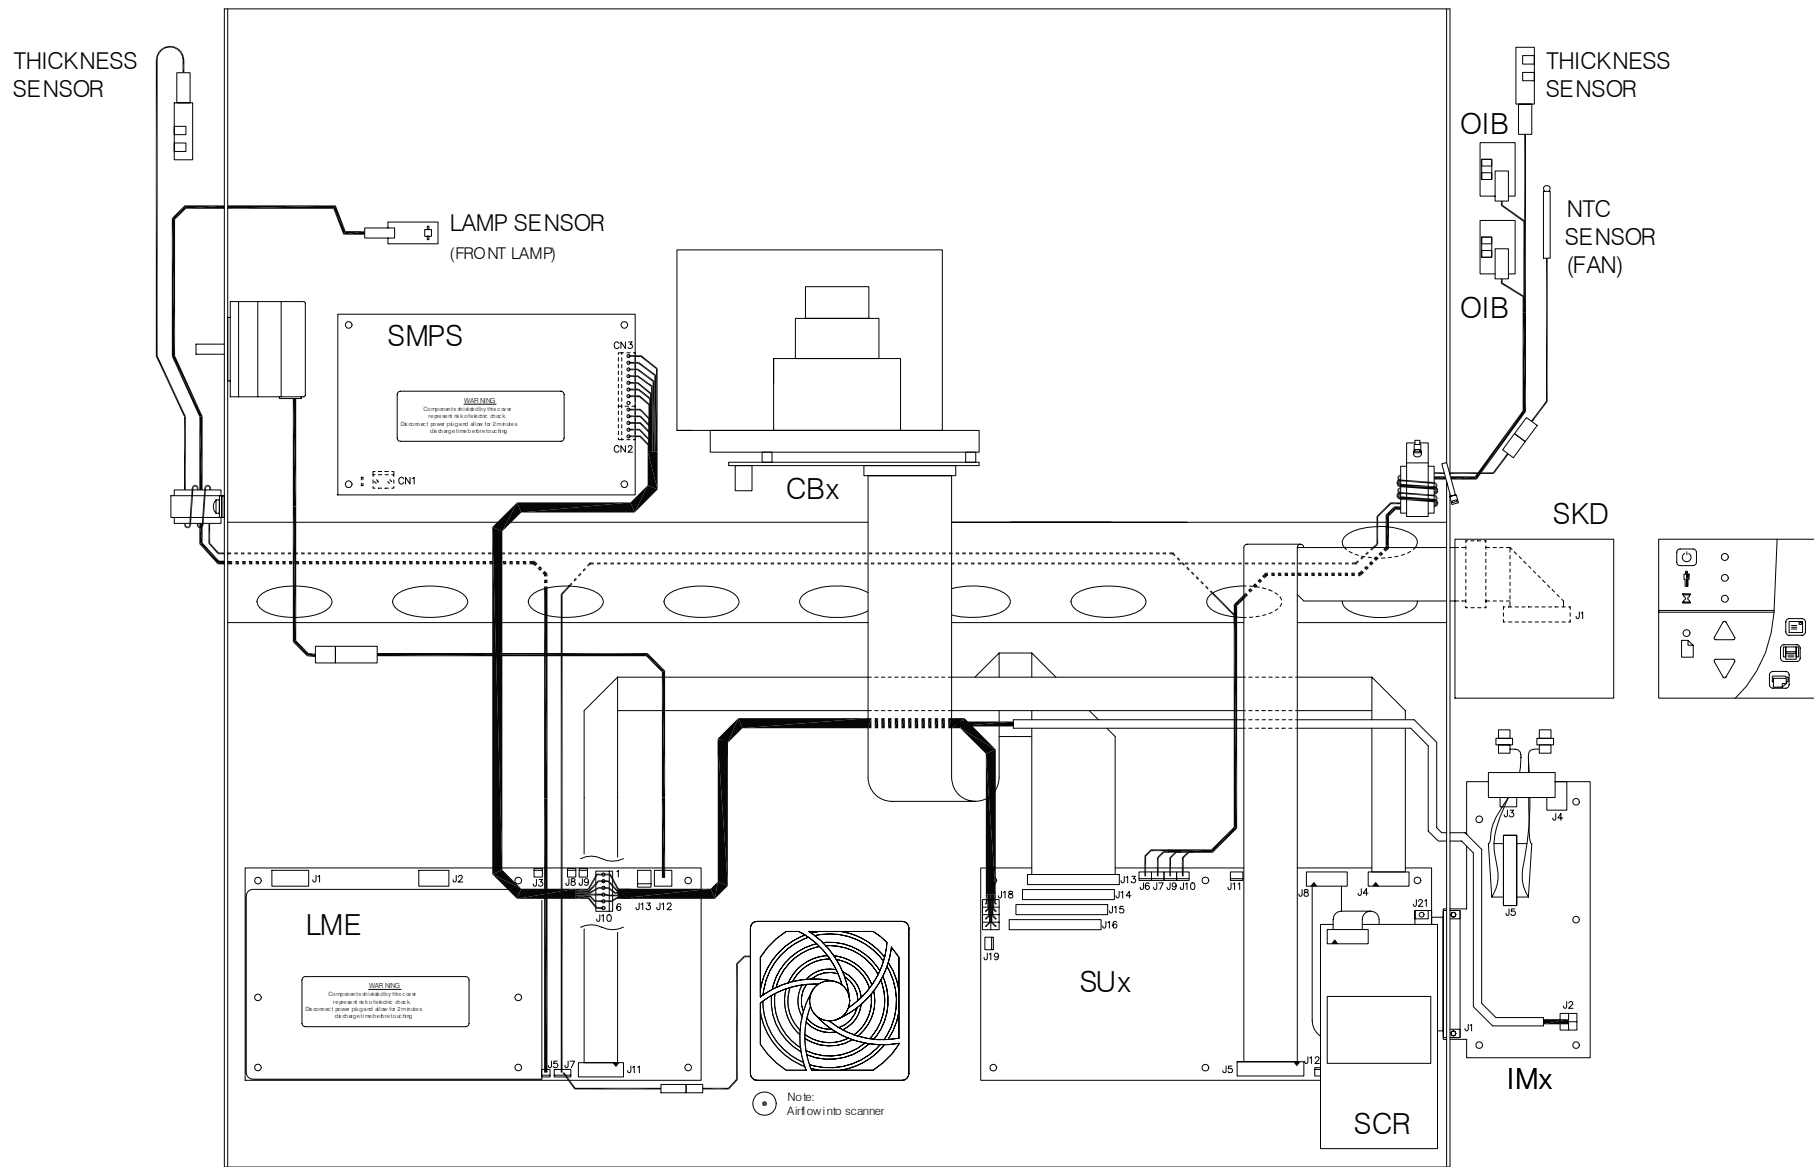

Fig. 11-2 COUGAR 25 Secondary Wiring
- Fig. 11-2 COUGAR 25, Secondary Wiring, page 180